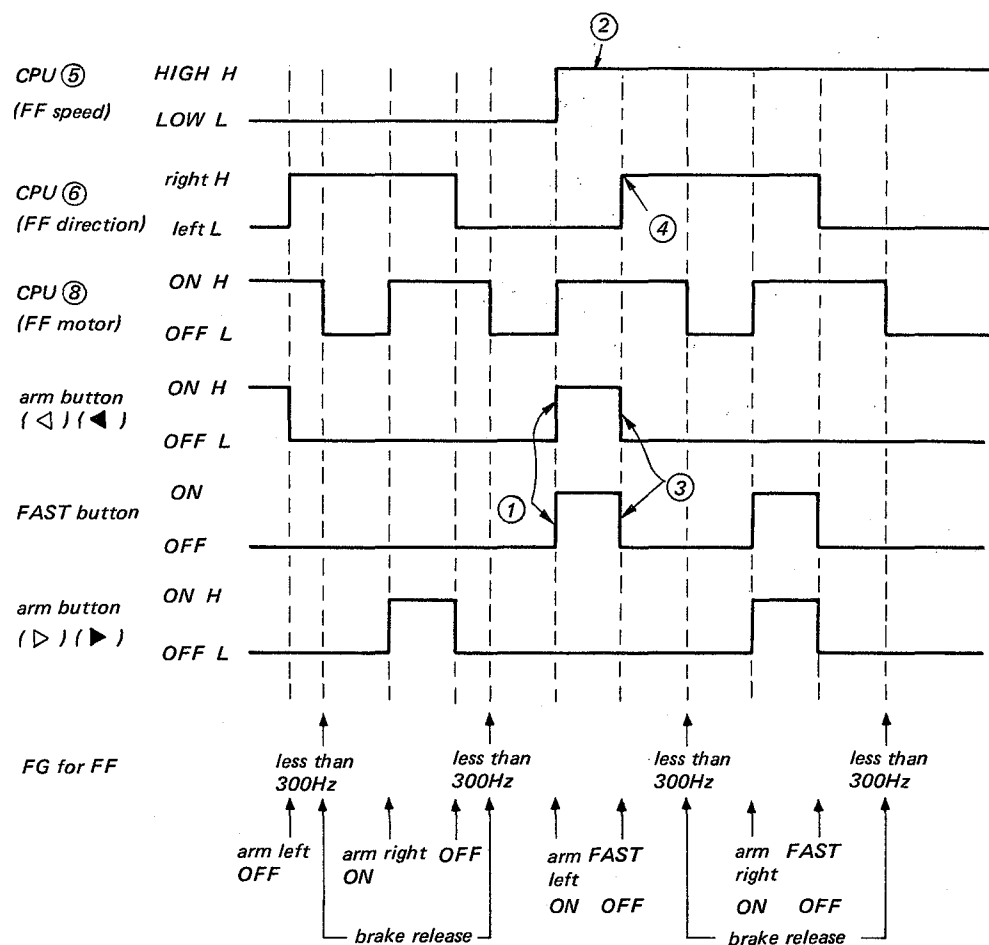

Fig. 23
3-1. Explanation of ①②③④ on the Brake Timing Chart on Fig. 23.